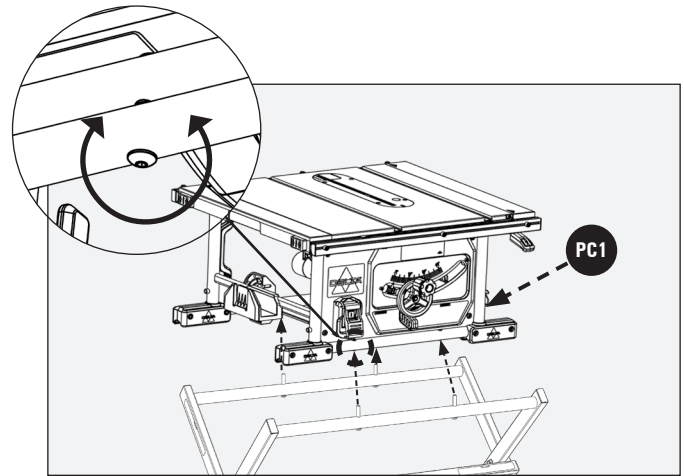

FIGURE 5
1. Place Saw Body **PC1** on Stand Assembly, while aligning the screw holes in the Saw Stand with the threaded holes in the Saw Base. See Figure 5.
2. Tighten (4) M8 x 55mm Pan Head Hex Socket Screws **HP6**, with supplied Combination 4mm Allen Wrench **HP9** to secure Stand Assembly to Saw.